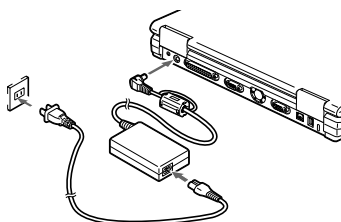

Figure 2-1 Connecting the AC Adapter
1. Plug the DC Output cable of the AC adapter into the DC Power jack on the rear panel of your notebook. (Figure 2-1.)